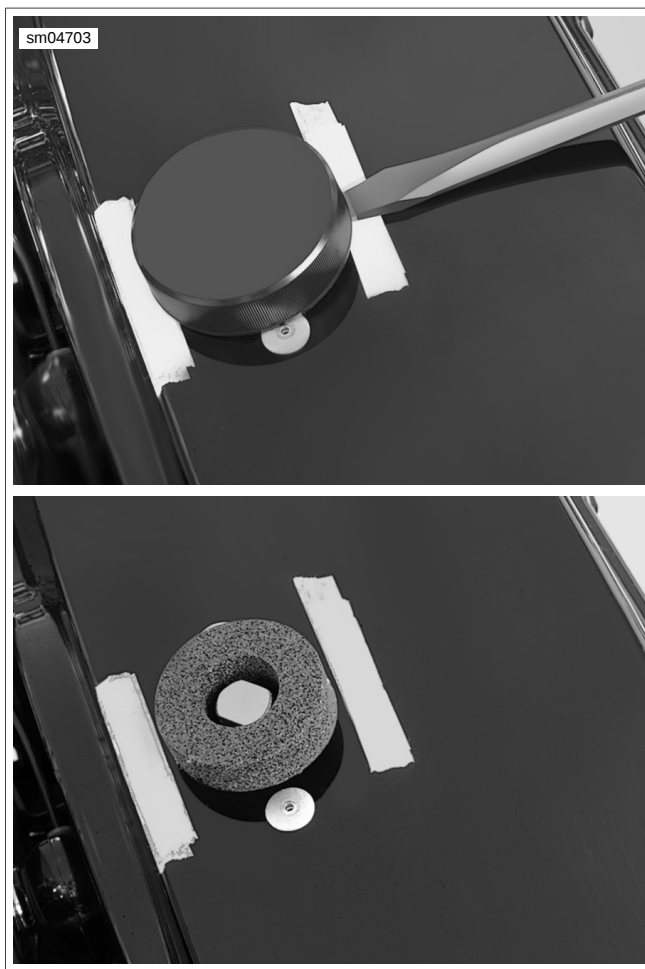

Figure 2-13. Saddlebag Knob and Seal
1. Place multiple strips of masking tape on each side of knob to protect finished surfaces from scratches and other damage. Using a large flat blade screwdriver, alternately pry up each side of knob until free of post. See upper frame of Figure 2-13.
2. Remove knob seal and masking tape. Remove any residual adhesive with 3M general Purpose adhesive remover (Part No. 051135). See lower frame of Figure 2-13.